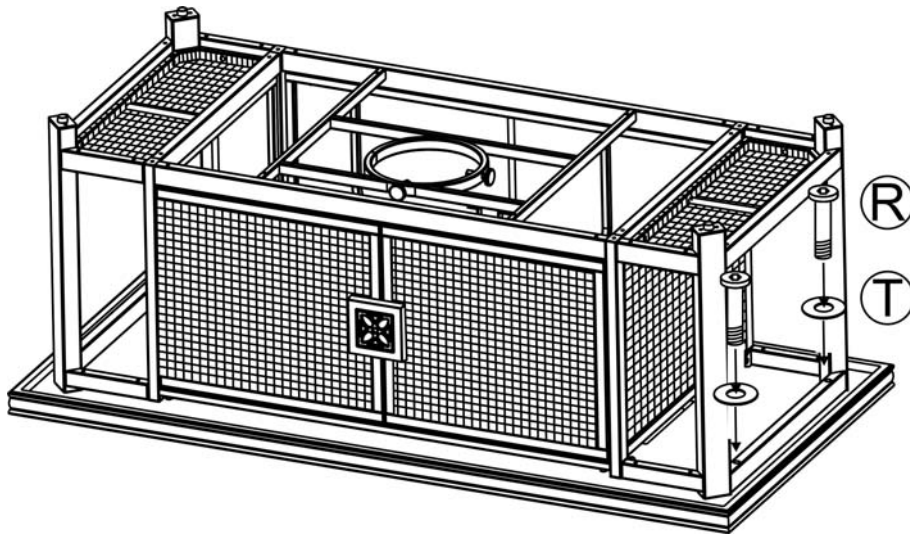

Figure 4
3. Place the tabletop upside down on a flat, non-abrasive surface. Attach the complete base to the table top by using four 1/4"x50 mm bolts and eight Ø20xØ6.5x2.0mm washers as shown in Figure 4. Guide the bolts through the holes in the complete base into the pre-drilled holes in the table top. Hand tighten only 2-3 turns.